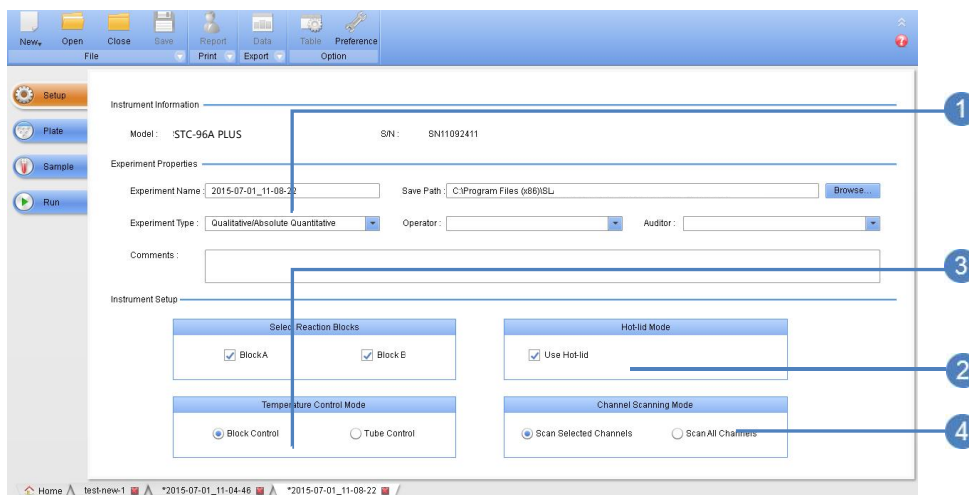

Fig 4- 20
- 1 Click the **Setup** tab (Fig 4- 20) and enter the general information in the **Experiment Information** area: